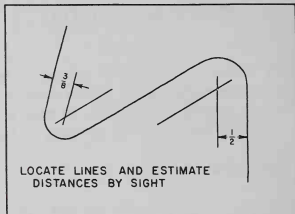

Fig. 2-9. Layout for section B, Plate No. 5.
- In section B, sketch two arcs connecting lines shown in Fig. 2-9.